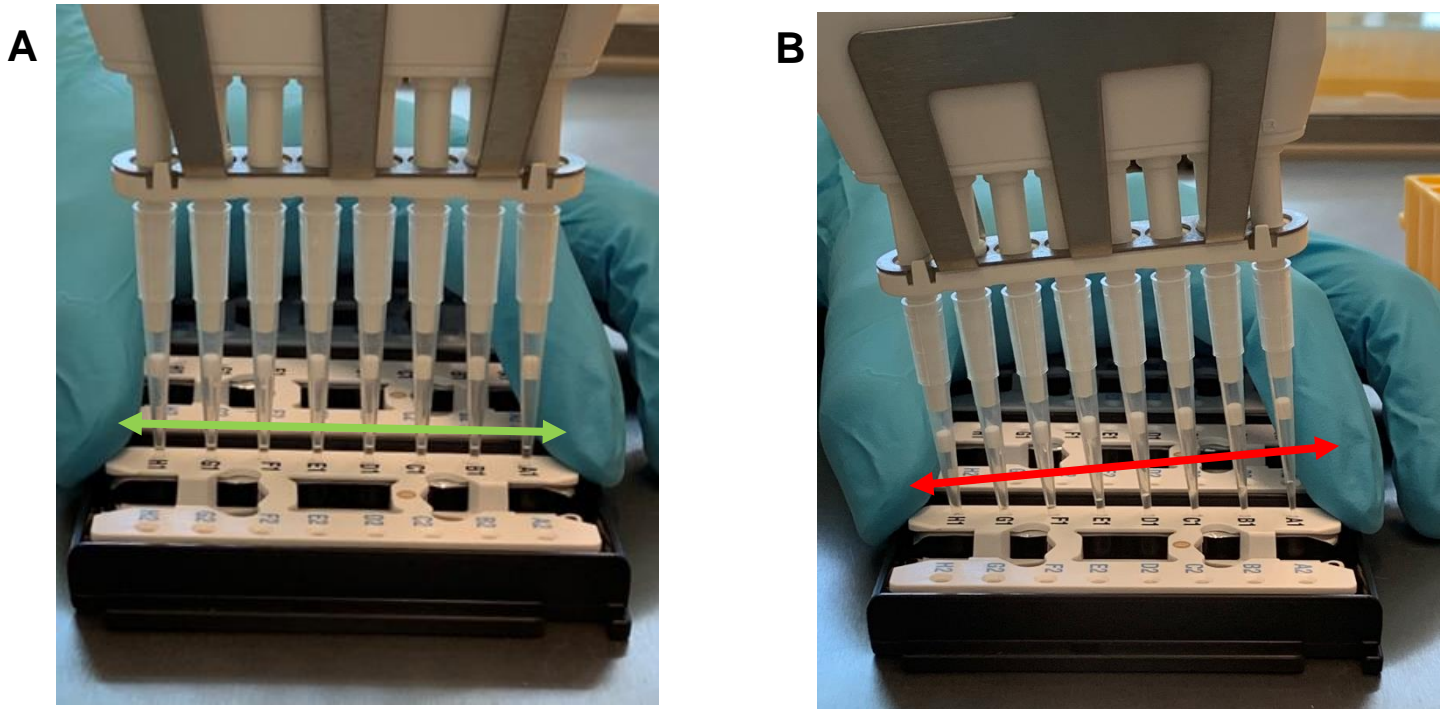

Figure 9: A) Correct positioning of an 8-channel pipette for injection. B) Incorrect positioning.
- Still keeping your multichannel pipette at a 90° angle with the chip, gently lift the pipette tips slightly off of the bottom of the inlet well. The displacement of the pipette tips should be small - approximately 1mm above the bottom of the inlet well – such that the 8 pipette tips remains inside of the oil. (**Figure 8C**). All 8 tips should be at the same height in the chamber inlet ports before injecting (**Figure 9**).